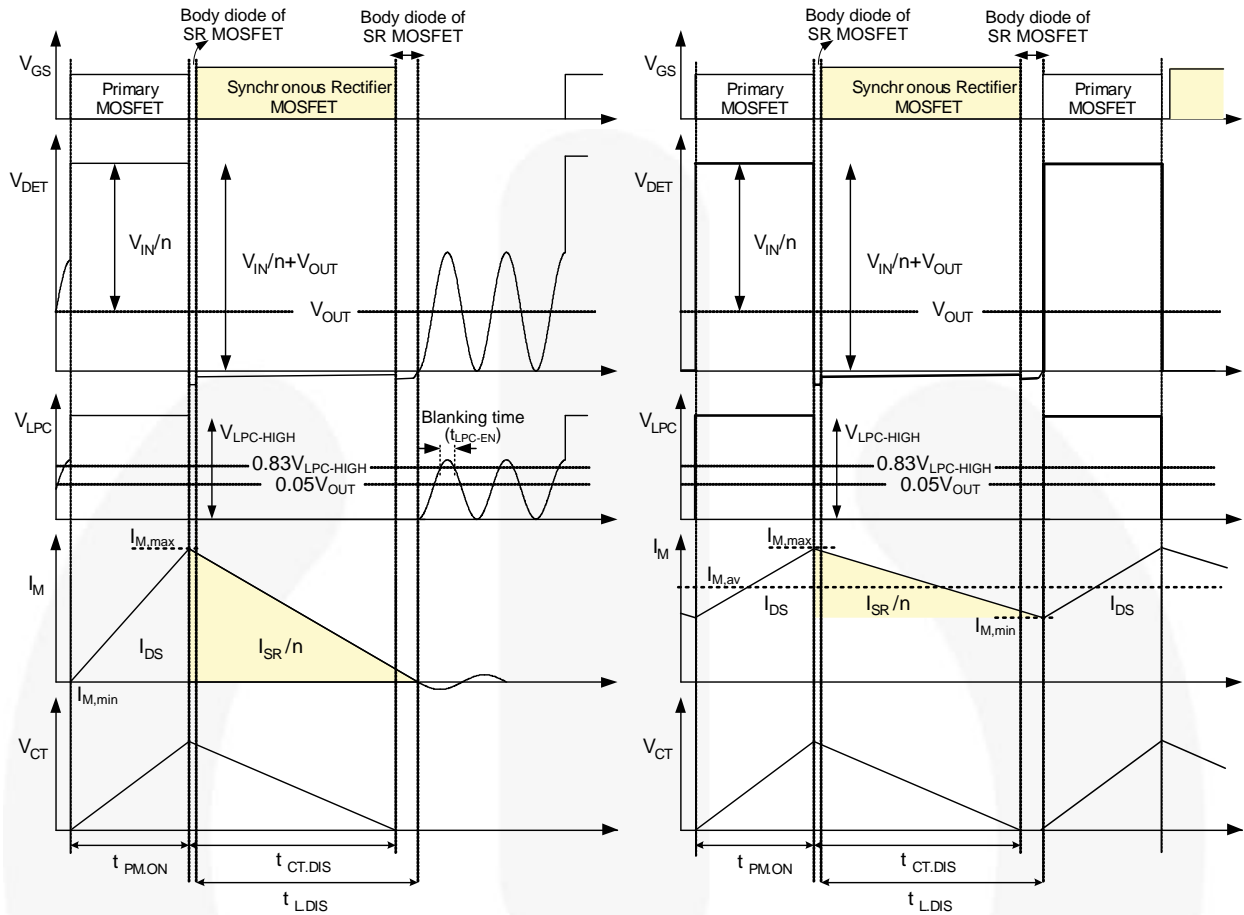
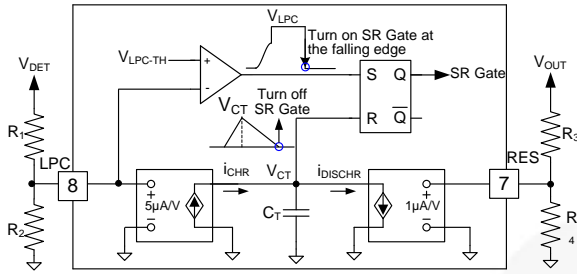

Figure 18. Typical Waveforms of Linear-Predict Timing Control in CCM and DCM/QR Flyback
Figure 19. Simplified Linear-Predict Block
The SR MOSFET turn-off timing is determined by linear-predict timing control and the operation principle is based on the volt-second balance theorem. The volt-second balance theorem states that the inductor average voltage is zero during a switching period in steady state, so the charge voltage and charge time product is equal to the discharge voltage and discharge time product. In flyback converters, the charge voltage on the magnetizing inductor is input voltage (V_{IN}), while the discharge voltage is nV_{OUT} , as the typical waveforms show in Figure 18. The following equation can be drawn:
FAN6204 uses the LPC and RES pins with two sets of voltage dividers to sense DET voltage (V_{DET}) and output voltage (V_{OUT}), respectively; so V_{IN}/n , $t_{PM,ON}$, and V_{OUT} can be obtained. As a result, $t_{L,DIS}$, which is the on-time of SR MOSFET, can be predicted by Equation (1). As shown in Figure 18, the SR MOSFET is turned on when the SR MOSFET body diode starts conducting and DET voltage drops to zero. The SR MOSFET is turned off by linear-predict timing control.
The linear-predict timing-control circuit generates a replica (V_{CT}) of magnetizing current of flyback transformer using internal timing capacitor (C_T), as shown in Figure 19. Using the internal capacitor voltage, the inductor discharge time ($t_{L,DIS}$) can be detected indirectly, as shown in Figure 18. When C_T is discharged to zero, the SR controller turns off the SR MOSFET.
Referring to Figure 18; when LPC voltage is higher than V_{LPC-EN} over a blanking time (t_{LPC-EN}) and lower than $V_{LPC-TH-HIGH}$ ($0.05 V_{OUT}$), then SR MOSFET can be triggered. Therefore, V_{LPC-EN} must be larger than $V_{LPC-TH-HIGH}$ or the SR MOSFET cannot be turned on. When designing the voltage divider of LPC, R_1 and R_2 should be considered as:
The typical waveforms of CCM operation in steady state are shown as Figure 18. When the primary-side MOSFET is turned on, the energy is stored in L_m . During the on-time of the primary-side MOSFET ($t_{PM.ON}$), the magnetizing current (I_M) increases linearly from $I_{M,min}$ to $I_{M,max}$. Meanwhile, internal timing capacitor (C_T) is charged by current source ($i_{CHR} - i_{DICH}$) proportional to V_{IN} , so V_{CT} also increases linearly.
In DCM / QR operation, when primary-side MOSFET is turned off, the energy stored in L_m is fully released to the output at the turn-off timing of primary-side MOSFET. Therefore, the DET voltage continues resonating until the primary-side MOSFET is turned on, as depicted in Figure 18. While DET voltage is resonating, DET voltage and LPC voltage drop to zero by resonance, which can trigger the turn-on of the SR MOSFET. To prevent fault triggering of the SR MOSFET in DCM operation, blanking time is introduced to LPC voltage. The SR MOSFET is not turned on even when LPC voltage drops below $0.05 V_{OUT}$ unless LPC voltage stays above $0.83 V_{LPC-HIGH}$ longer than the blanking time (t_{LPC-EN}). The turn-on timing of the SR MOSFET is inhibited by gate inhibit time ($t_{INHIBIT}$), once the SR MOSFET turns off, to prevent fault triggering.